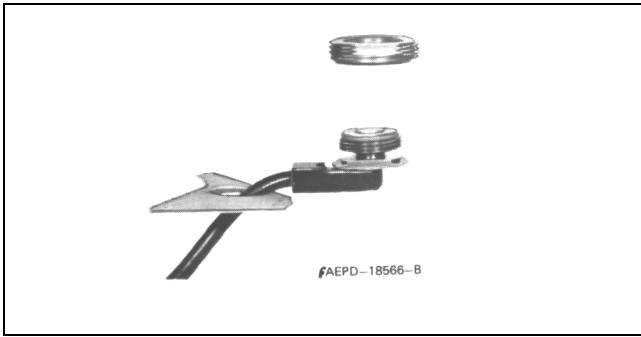

Figure 5. Coaxial Cable Insertion
4. Refer to Figure 5. From the top, feed the RG-58A/U lead-in cable between the headlining and the metal roof. Then route the cable between the roof and the radio set.